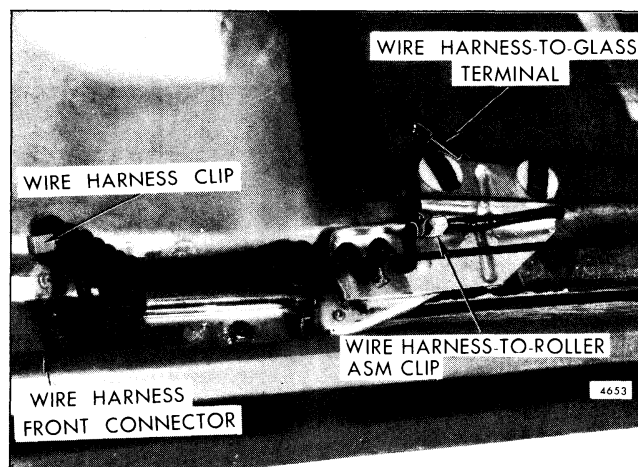

Fig. 7-100-Heated Window Rear Wire Harness - Window Up (Roof Outer Panel Removed for Illustrative Purposes)
A coiled harness serves the heated window circuit requirements. This allows the harness to extend when the window is closed and recoil when the window is raised (Fig. 7-100). A plastic tube integral with the harness guides the harness during recoil.
4. Disengage heated window rear harness at front junction and secure a 4 ft. cord to harness to facilitate installation (Fig. 7-100).